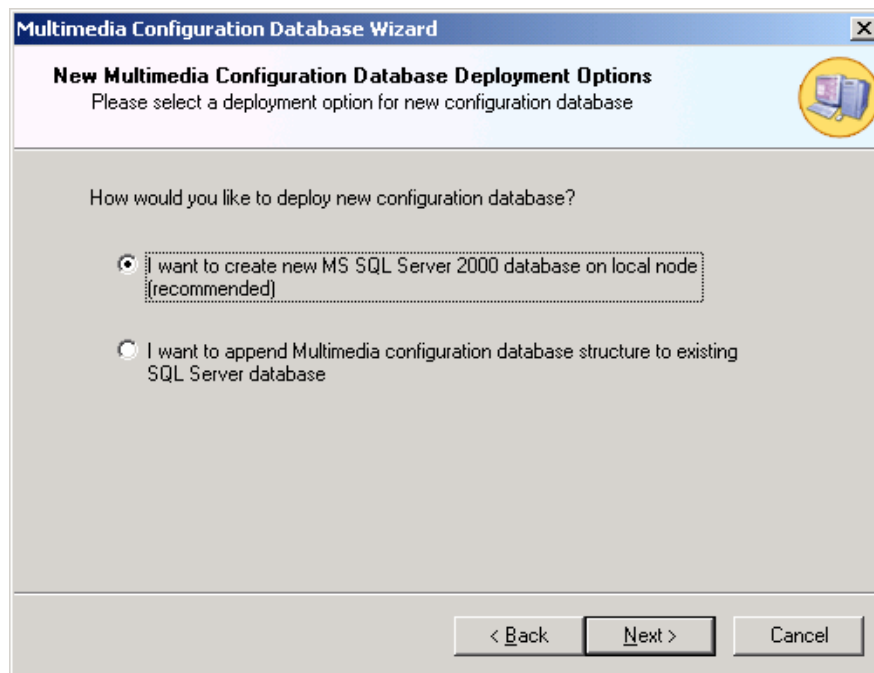

Figure 1.15. Creating a New Microsoft SQL Server Database
- You have two options for creating your new database, as shown in **Figure 1.15**. You can either create a new Microsoft SQL Server database, or you can add the configuration database structure to an existing Microsoft SQL Server database. Here we will assume that you will choose the first option (to create a new database). Select **I want to create a new Microsoft SQL Server database on local node**, and then click the **Next** button to continue.